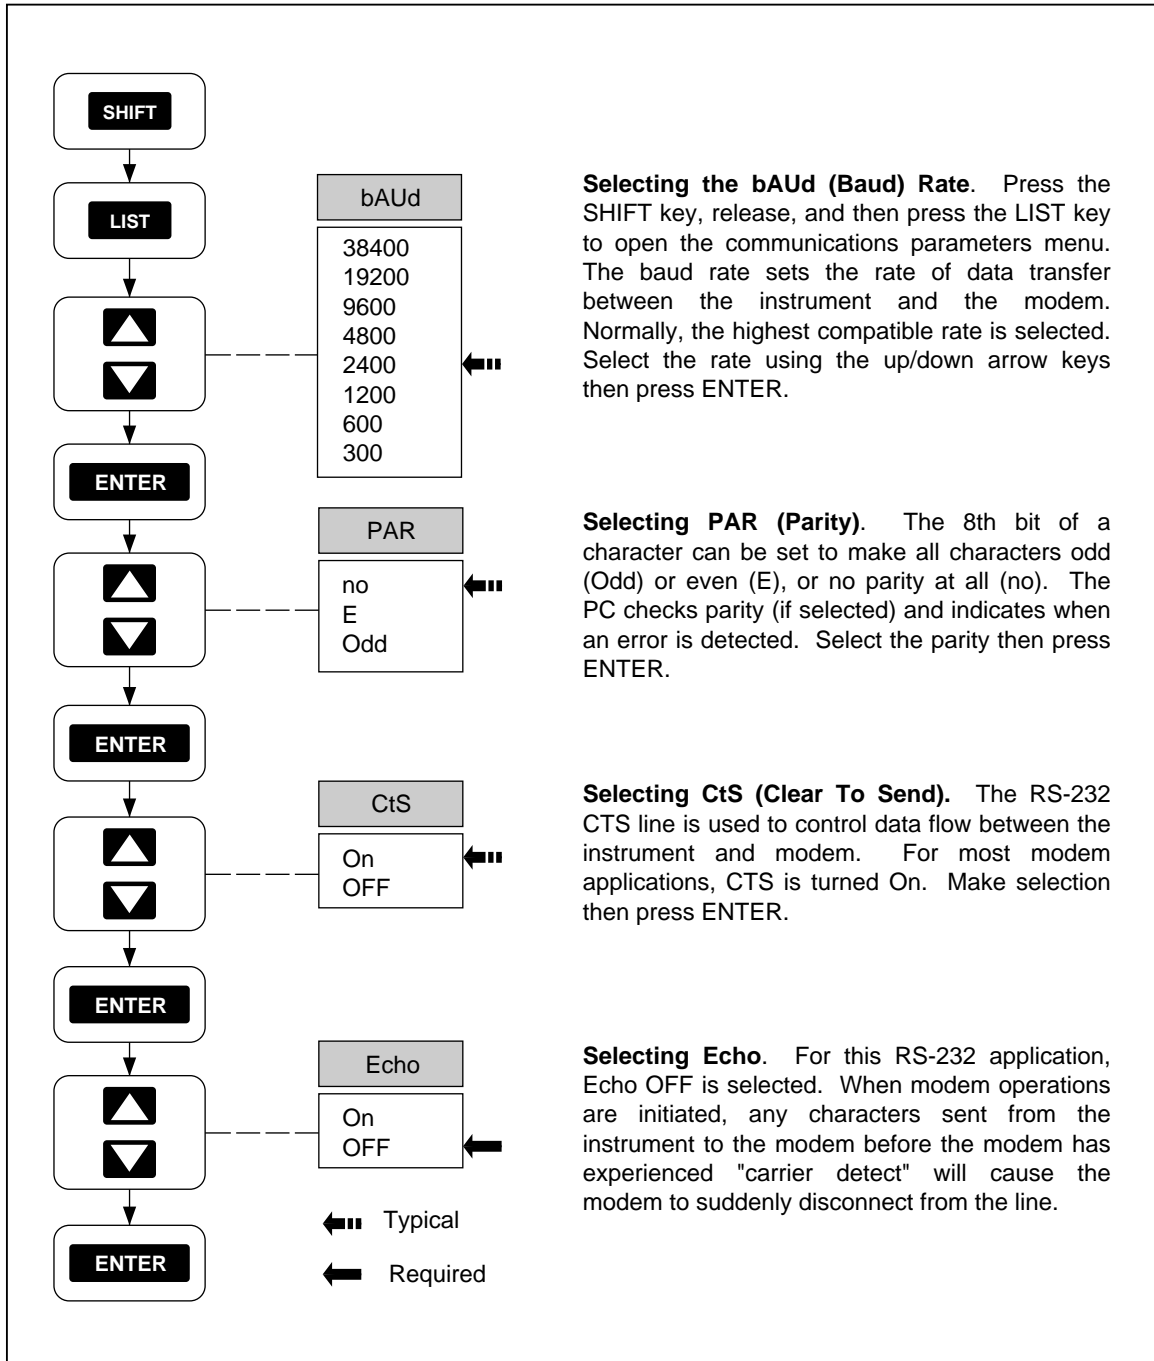

Figure 6-4. Configuring the Instrument RS-232 Port for Modem Operations
Correct operation of the instrument RS-232/modem link depends on the baud rate, parity, CTS (Clear To Send), and Echo of the link parameters. Perform the procedure in Figure 6-4 to establish the communication link parameters.
The PC end of the modem link involves a similar procedure of connecting the correct cable between the PC and modem, and configuring the modem to support the communications link. This is the responsibility of the user due to the variety of available modems and software. Be sure the PC COM port has the same parameters as those selected in Figure 6-4.
When all connections and configurations are complete, the PC should initiate communications with the modem supporting the instrument using the selected communications software. Typically, this means selecting a dial feature, or entering an AT command, e.g., ATDT 123-4567 from the terminal emulation screen. After the connection is made and the terminal emulation screen is present, enter a few <ENTER> characters to clear the instrument buffer, and note the instrument => prompts on the screen. Then enter the command \*IDN? <ENTER> (since ECHO OFF was selected in Figure 6-4, the \*IDN? characters will not appear on screen). The return should be FLUKE,2635A,0,Mn.n An.n Dn.n Ln.n where n.n is replaced with the versions of the displayed parameters. (See the \*IDN? command in Chapter 4 for more information.) The RS-232/modem link is operating correctly and the PC may now operate using Starter or Logger applications software, or custom software.
1. No operation of any kind usually indicates a cabling problem, hardware incompatibility, a modem DIP switch problem, or incorrectly selecting ECHO ON in Figure 6-4 (ECHO OFF must be selected).